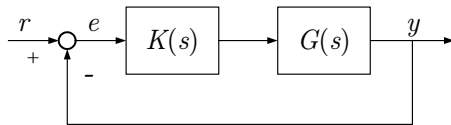

Figure 7.1 : Unity feedback system.
- For the feedback configuration in Figure 7.1, the transfer function from r to error, e is
- For the unity feedback system in Figure 7.1, the steady-state error is summarized in the following table:
- For the unity feedback system in Figure 7.1, the error constants and system types is summarized in the following table (compare with Table 7.1):